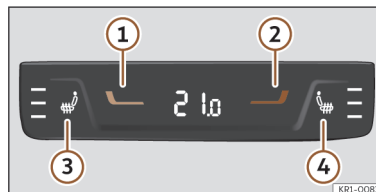

Fig. 104 In the centre console, rear section: controls for the rear seats.
- Press buttons **1** and **2** >>> **Fig. 104** to adjust the temperature of the rear zone.
- Tap buttons **③** and **④** on the rear seat controls located at the back of the centre console >>> **Fig. 104.**